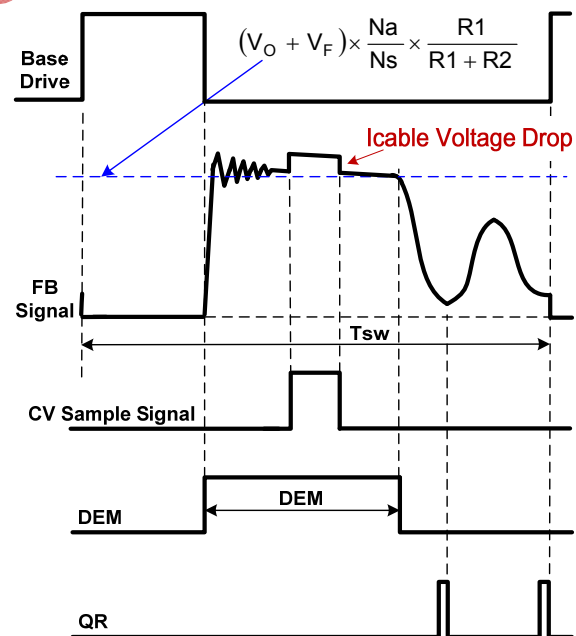

Fig.2
In Primary Side Regulation (PSR) control, the output voltage is sensed on the auxiliary winding during the transfer of transformer energy to the secondary. Fig.2 illustrates the timing waveform of CV sampling signal, demagnetization signal (DEM) and quasi-resonant (QR) trigger signal in KP213X. When the CV sampling process is over, the internal sample/hold (S&H) circuit captures the error signal and amplifies it through the internal Error Amplifier (EA). The output of EA is sent to the Quasi Resonant PSR CV Modulator (QR-CVM) for CV regulation. A valley is selected to trigger new PWM cycle by the output of the QR-CVM block, which is determined by the load. The internal reference voltage for EA is trimmed to 1.3V with high accuracy.
During the CV sampling process, an internal variable current source is flowing to FB pin for Cable Drop Compensation (CDC). Thus, there is a step at FB pin in the transformer demagnetization process, as shown in Fig.2. Fig.2